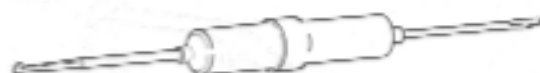

Figure B-10. Deutsch Connector Pick Tool (Part No. HD-41475-100)
1. Remove the secondary locking wedge. Use the hooked end of a stiff piece of mechanics wire a needle nose pliers, or a suitable pick tool (Part No. HD-41475-100). See Figure B-10.